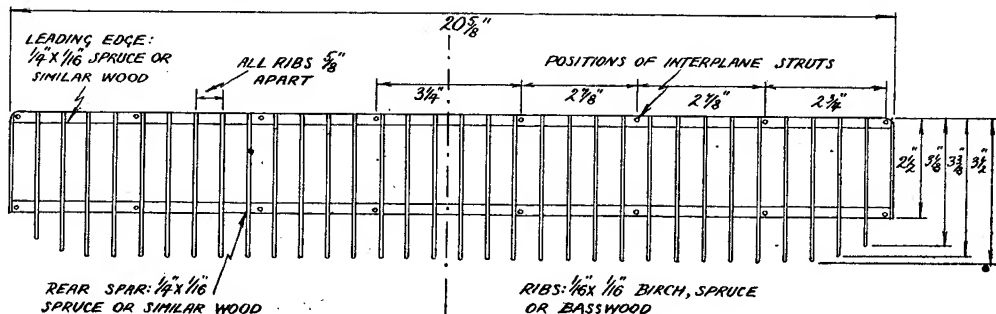
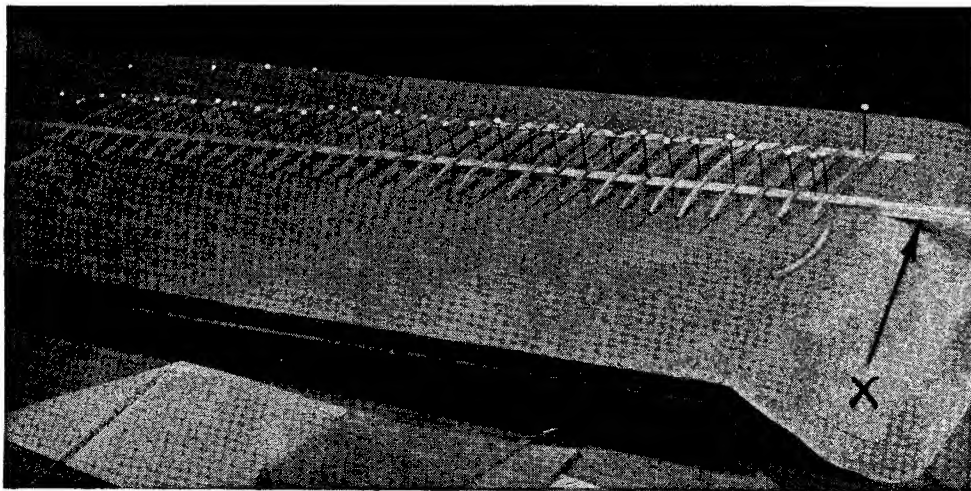
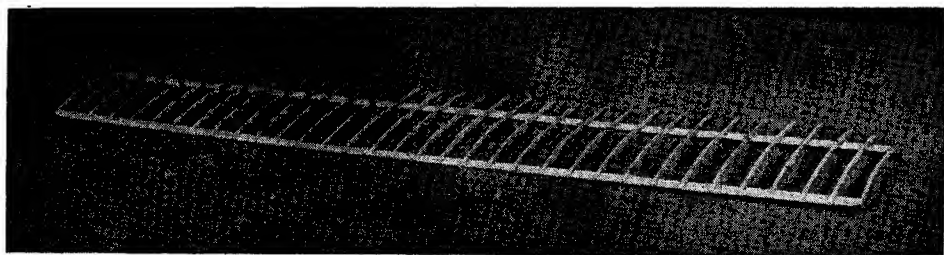
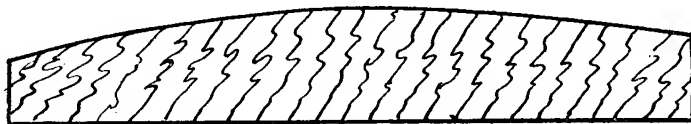

Fig. 5.
Fig. 6. Wing ribs pinned in position.
Fig. 7. Finished wing framework.
Fig. 9.
Fig. 5 shows a plan of the wing; both the top and bottom planes are exactly similar. As a start we must make a full-sized drawing upon a sheet of paper, and, in these economical times, I would recommend that you use the back of a strip of old wallpaper, a roll of which may usually be found in most homes. The drawing gives all the details necessary, so I will only outline the actual making. The photographs, Figs. 6, 7 and 8, show that the wing ribs are curved, so that the first step will be to cut the 68 ribs to length, and bend them in the steam from a kettle. A bending template should be cut from a piece of thick cardboard, the rib being thoroughly saturated in the steam, and quickly manipulated to conform to the template. Fig. 9 shows the correct curve of the template.
Having obtained the ribs, the leading edge should be pinned on to the drawing on a board. The main spar, which lies near the trailing edge, must also be fixed to the board, but must be raised by jacking up with a length of $\frac{1}{4}$ -in. \times $\frac{1}{4}$ -in. wood, as shown in Fig. 6. This packing piece is marked (X) in the picture, and is, of course, not actually part of the wing structure. Now cement the ribs across the spars, as is being done in Fig. 6, and when the cement is set, remove from the board. The wing in this stage is shown in Fig. 7. Two such wings are required.